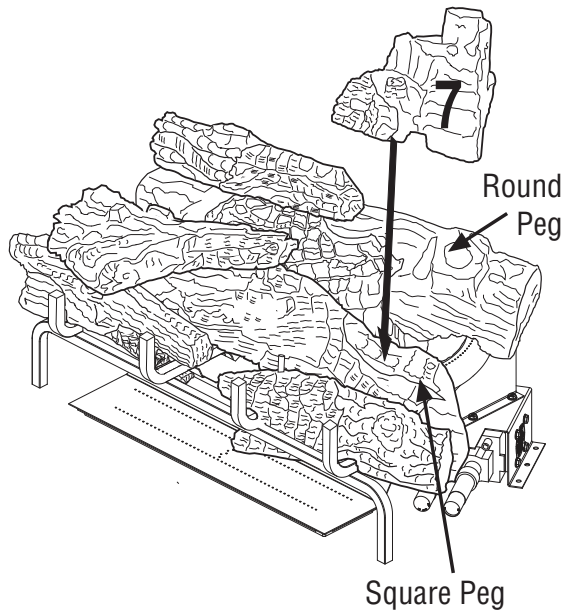

Figure 43 - Installing Log # 7
7. Place the right rear chunk log (#7) on top of the middle log (#2) and rear log (#1) as shown in **Figure 43**.